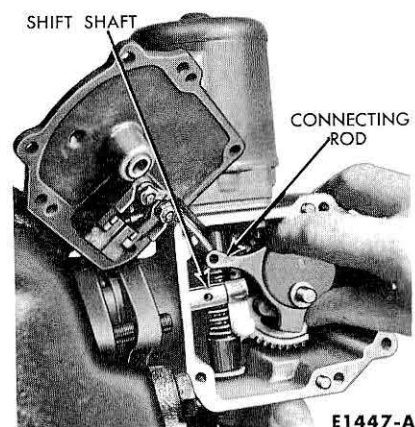

FIG. 6—Positioning Connecting Rod in Shift Shaft
3. As the shift unit is moved into place, move the eccentric connecting rod into the slot in the end of the shift shaft (Fig. 6). Install the lock washers and mounting stud nuts, and torque to specifications.